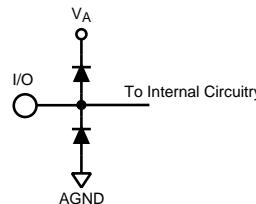

Figure 2.
- (1) The inputs are protected as shown below. Input voltage magnitudes above V_A or below GND will not damage this device, provided current is limited per Note 4. However, errors in the A/D conversion can occur if the input goes above 2.6V or below GND as described in the Operating Ratings section. See Figure 2.
- (2) With a full scale differential input of $2V_{P-P}$, the 12-bit LSB is 488 μV .
- (3) Typical figures are at $T_A = 25^\circ C$ and represent most likely parametric norms at the time of product characterization. The typical specifications are not ensured.
- (4) The input capacitance is the sum of the package/pin capacitance and the sample and hold circuit capacitance.
- (2) With a full scale differential input of $2V_{P-P}$, the 12-bit LSB is $488\ \mu V$.
- (4) This parameter is specified in units of dBFS - indicating the value that would be attained with a full-scale input signal.
- (4) This parameter is ensured by design and/or characterization and is not tested in production.